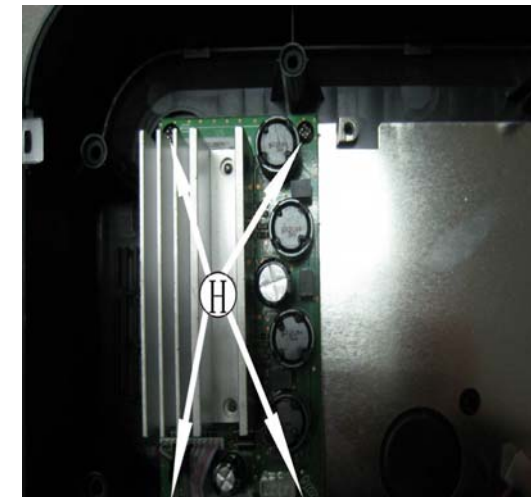

Figure 8
- 1) Loosen 4 screws "H" as shown in figure 8 to detach AMP Board.